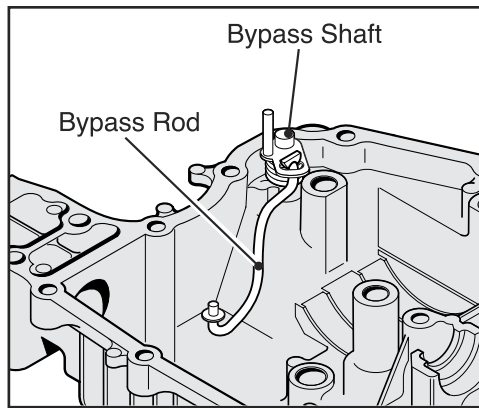

Fig. 3, Bypass Rod Assembly
1. Place the Upper Case back to the Service Position; then, attach the Bypass Rod to the Bypass Shaft. (Fig. 3)